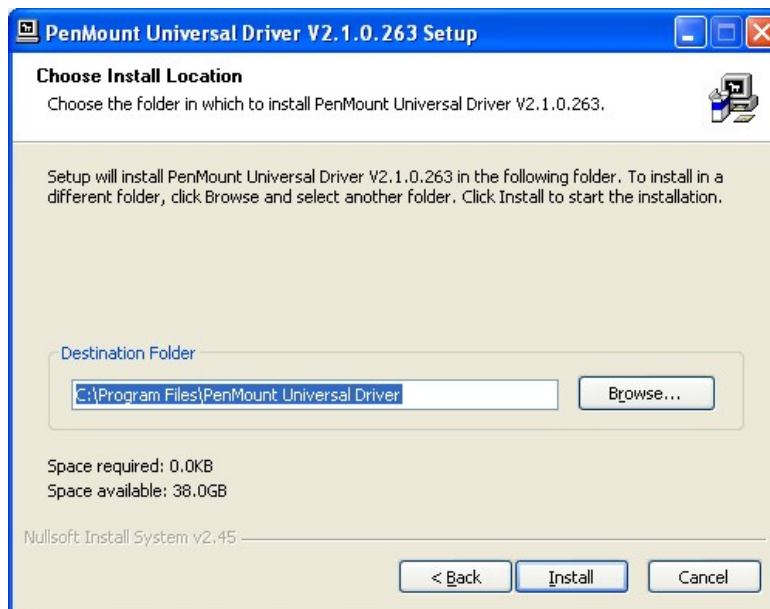

Figure 5-23: Touch Screen Driver Choose Install Location
Step 8: Browse for an install location or use the one suggested (Figure 5-23).